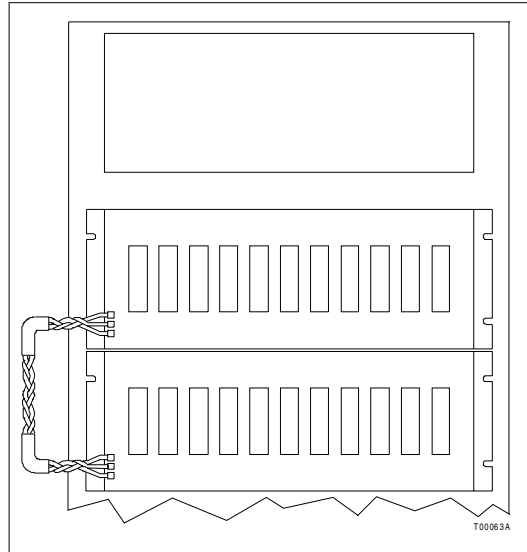

Figure 3-2. Controlway Cable Installation
1. Attach one end of the cable (twisted three-wire) to the bottom three tabs on the lower left of the module mounting unit backplane (facing from behind). Refer to Figure 3-2.